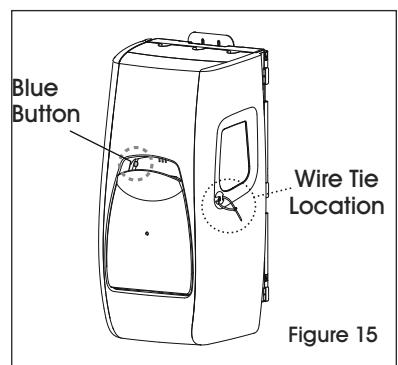

Figure 15
- Push the blue button and hold for 3 seconds until a beep is heard to disarm the alarm. (See Figure 15)
NOTE: To prevent tampering, a wire tie can be utilized to lock the side doors. (See Figure 15)